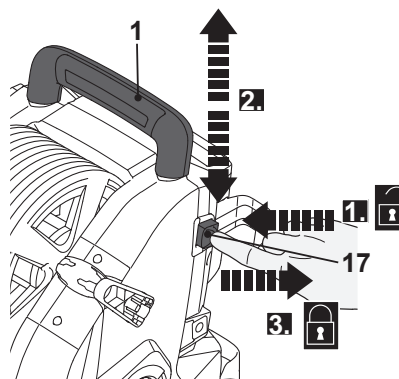

Fig. 17
1. Press the lock-off button (17) to unlock the transportation handle (1) (Fig. 17, step 1).
2. Move the transportation handle (1) to required position (high/low position) (step 2).